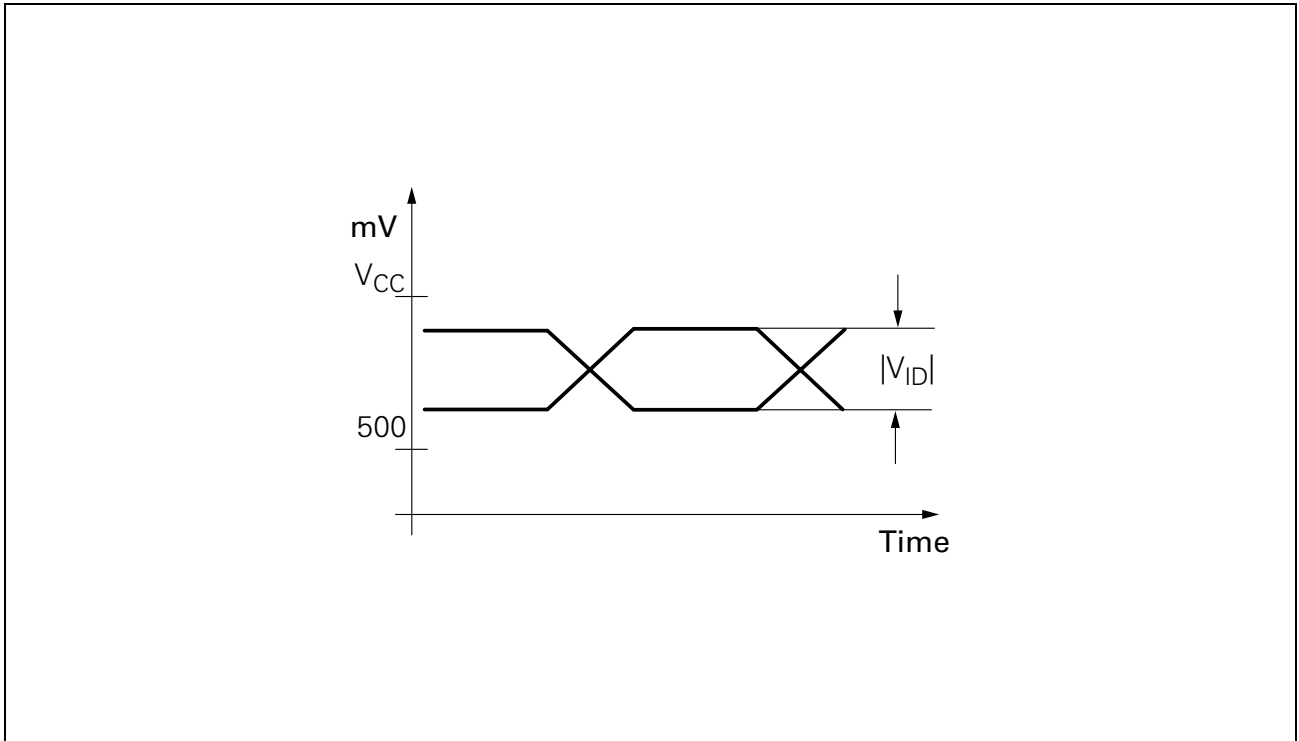

Figure 5 Input Level Diagram
- ⁴⁾ Level diagram: see **Figure 5**